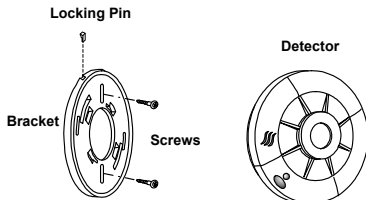

Figure 7: Smoke Detector Installation
Read the “Where To Install Your Smoke Detector” and “Where Not To Install Your Smoke Detectors” sections in this Manual before installing. To install the detector, perform the following steps (see *Figure 7*).
- ◆ Remove locking pin securing the mounting bracket to the unit (see *Figure 7*).
- ◆ Using screws (supplied) attach the bracket to the wall as in *Figure 7*.
Insert the locking pin in order to secure the mounting bracket to the detector (see *figure 7*).